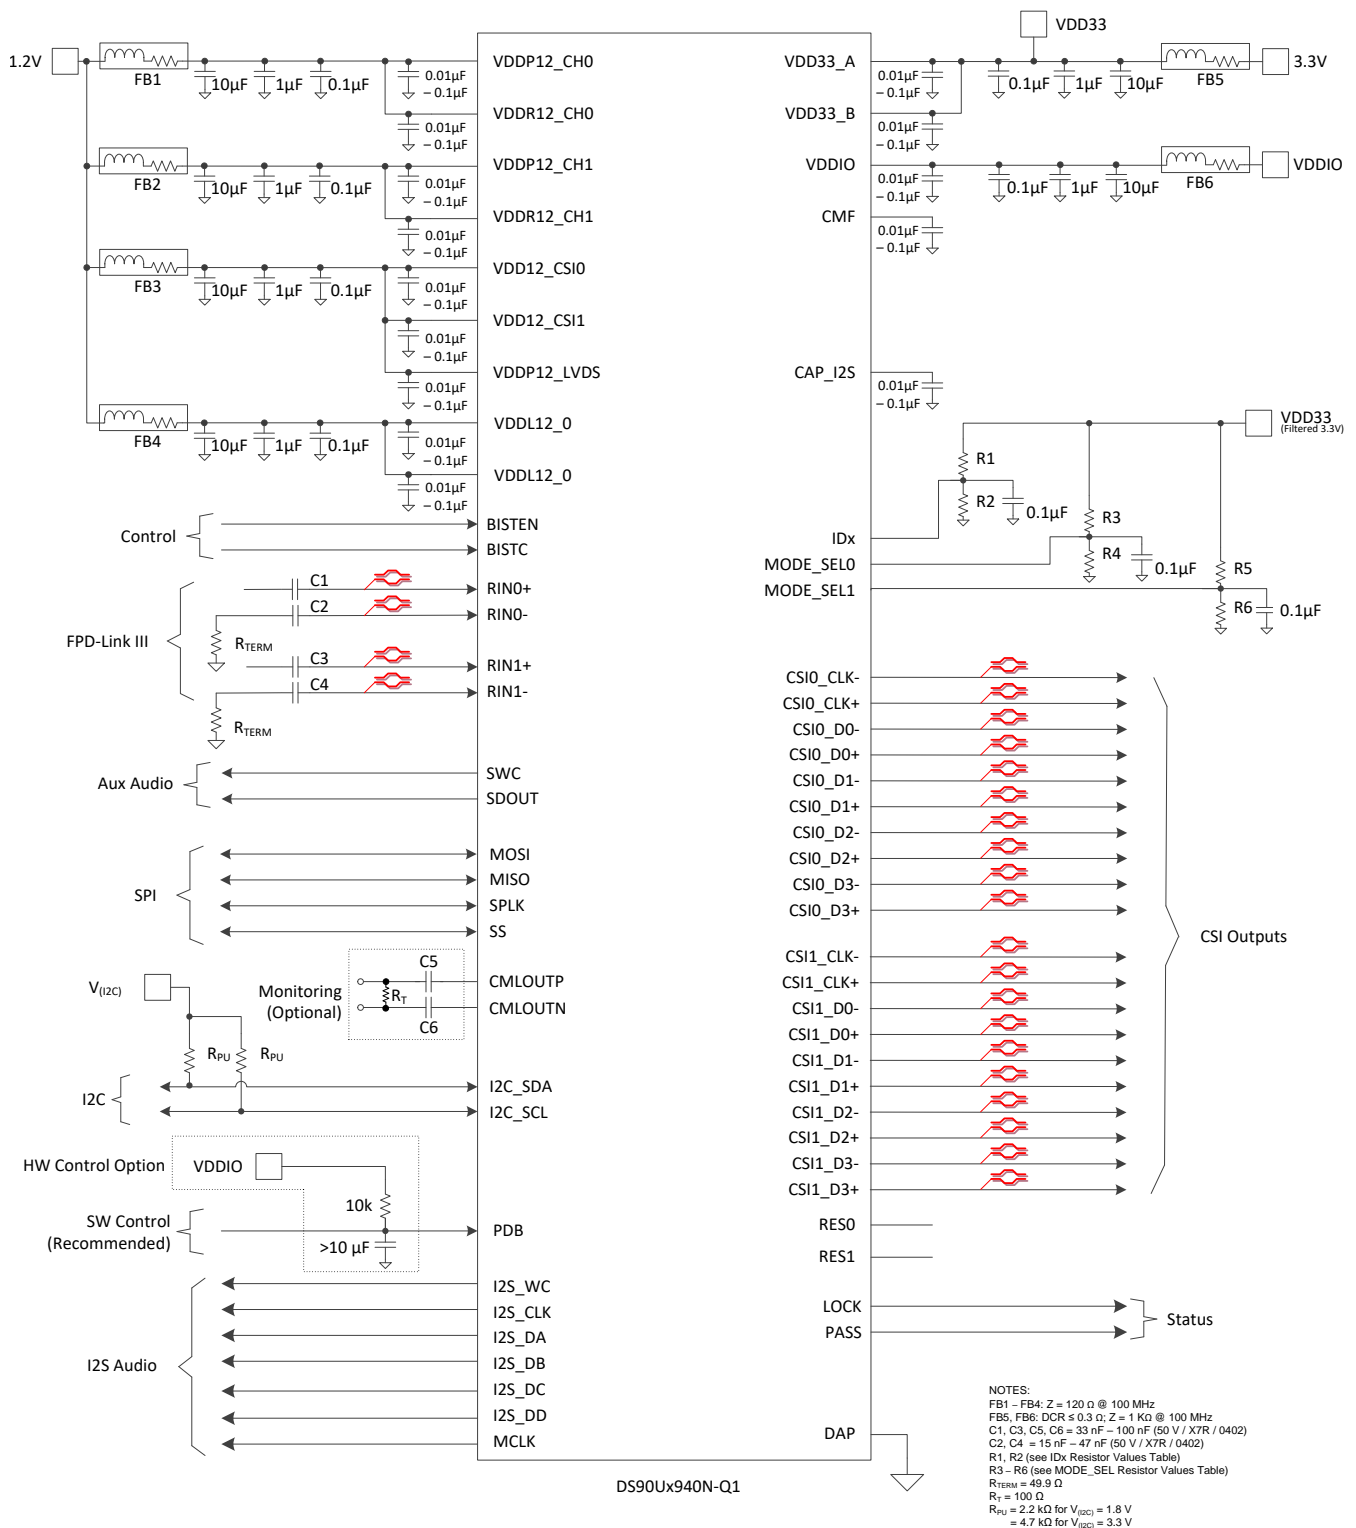

Figure 39. Typical Connection Diagram (Coax)
Bypass capacitors must be placed near the power supply pins. At a minimum, use four (4) 10- $\mu$ F capacitors for local device bypassing. Ferrite beads are placed on the two sets of supply pins (VDD33 and VDDIO ) for effective noise suppression. The interface to the graphics source is LVDS. The VDDIO pins may be connected to 3.3 V or 1.8 V. A capacitor and resistor are placed on the PDB pin to delay the enabling of the device until power is stable. See Figure 38 for a typical STP connection diagram and Figure 39 for a typical coax connection diagram.